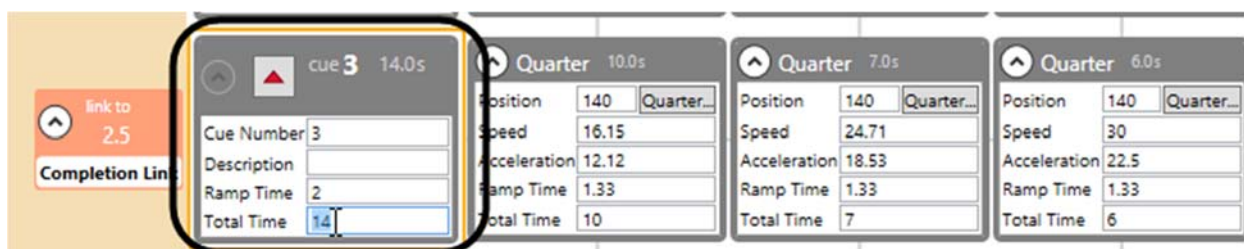

Figure 226
1. Select the **Cue** you wish to edit in the **Cue Grid** (Figure 226).